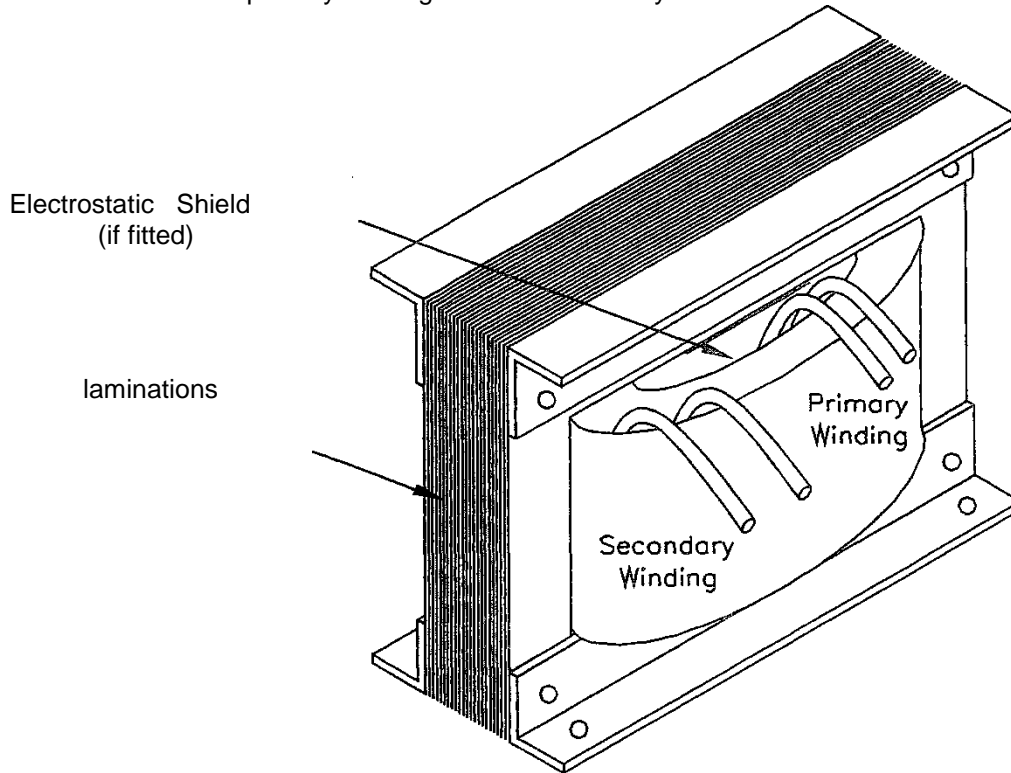

Figure 4 - Shell type transformer
8. Figure 4 shows a typical layout and construction for a double wound single phase shell type transformer which has one primary winding and one secondary.